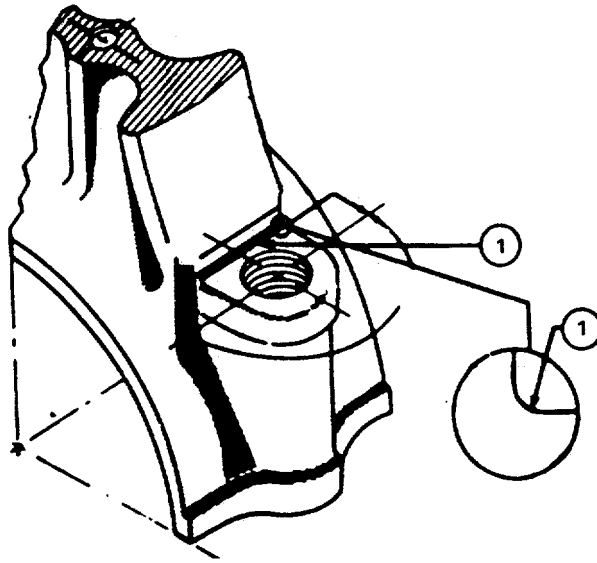

FIGURE 4-35. *Fillet Radius.*
- (b) Without a piston pin bushing (2), the twist must be no more than 0.020 inch (0.51 mm).
- (c) With a bushing (2) installed and machined to the correct size, the twist must be no more than 0.010 inch (0.25 mm).
- (11) Measure the connecting rod machine bolts (10).
- (b) Replace any machine bolts (10) that have damaged threads.
- (12) Measure the pilot bore in the bolt holes.
- (a) If the pilot bore in the rod (1) is larger than 0.6249 inch (15.872 mm), discard the rod.
- (b) If the pilot bore in the cap (11) is larger than 0.6252 inch (15.880 mm), discard the cap (11).
- (13) Check the radius on the bolt pad.
- (a) The pad must have a fillet radius of 0.045 to 0.055 inch (1.14 to 1.40 mm). See FIGURE 4-35 .